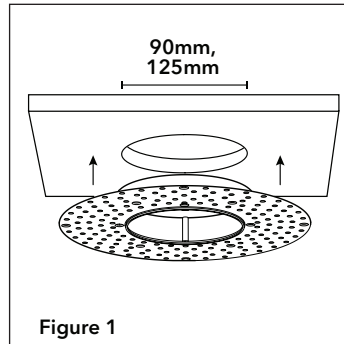

Figure 1
Step 1. Make ceiling cutout to recommended dimension. Insert mud ring in ceiling (Fig. 1).